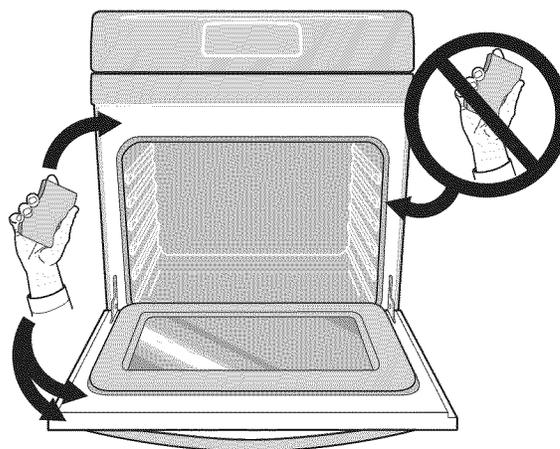

Figure 18: Oven door area to clean and not clean (gasket).
- Clean any soil from the oven frame, the door liner outside the oven door gasket and the small area at the front center of the oven bottom (Figure 18). These areas heat sufficiently to burn soil on. Clean using soap and water prior to starting Self Clean.
- Do not clean the oven door gasket (Figure 18). The woven material of the oven door gasket is essential for a good seal. Care should be taken not to rub, damage or remove the gasket. Do not use any cleaning materials on the oven door gasket. Doing so could cause damage to the door gasket.